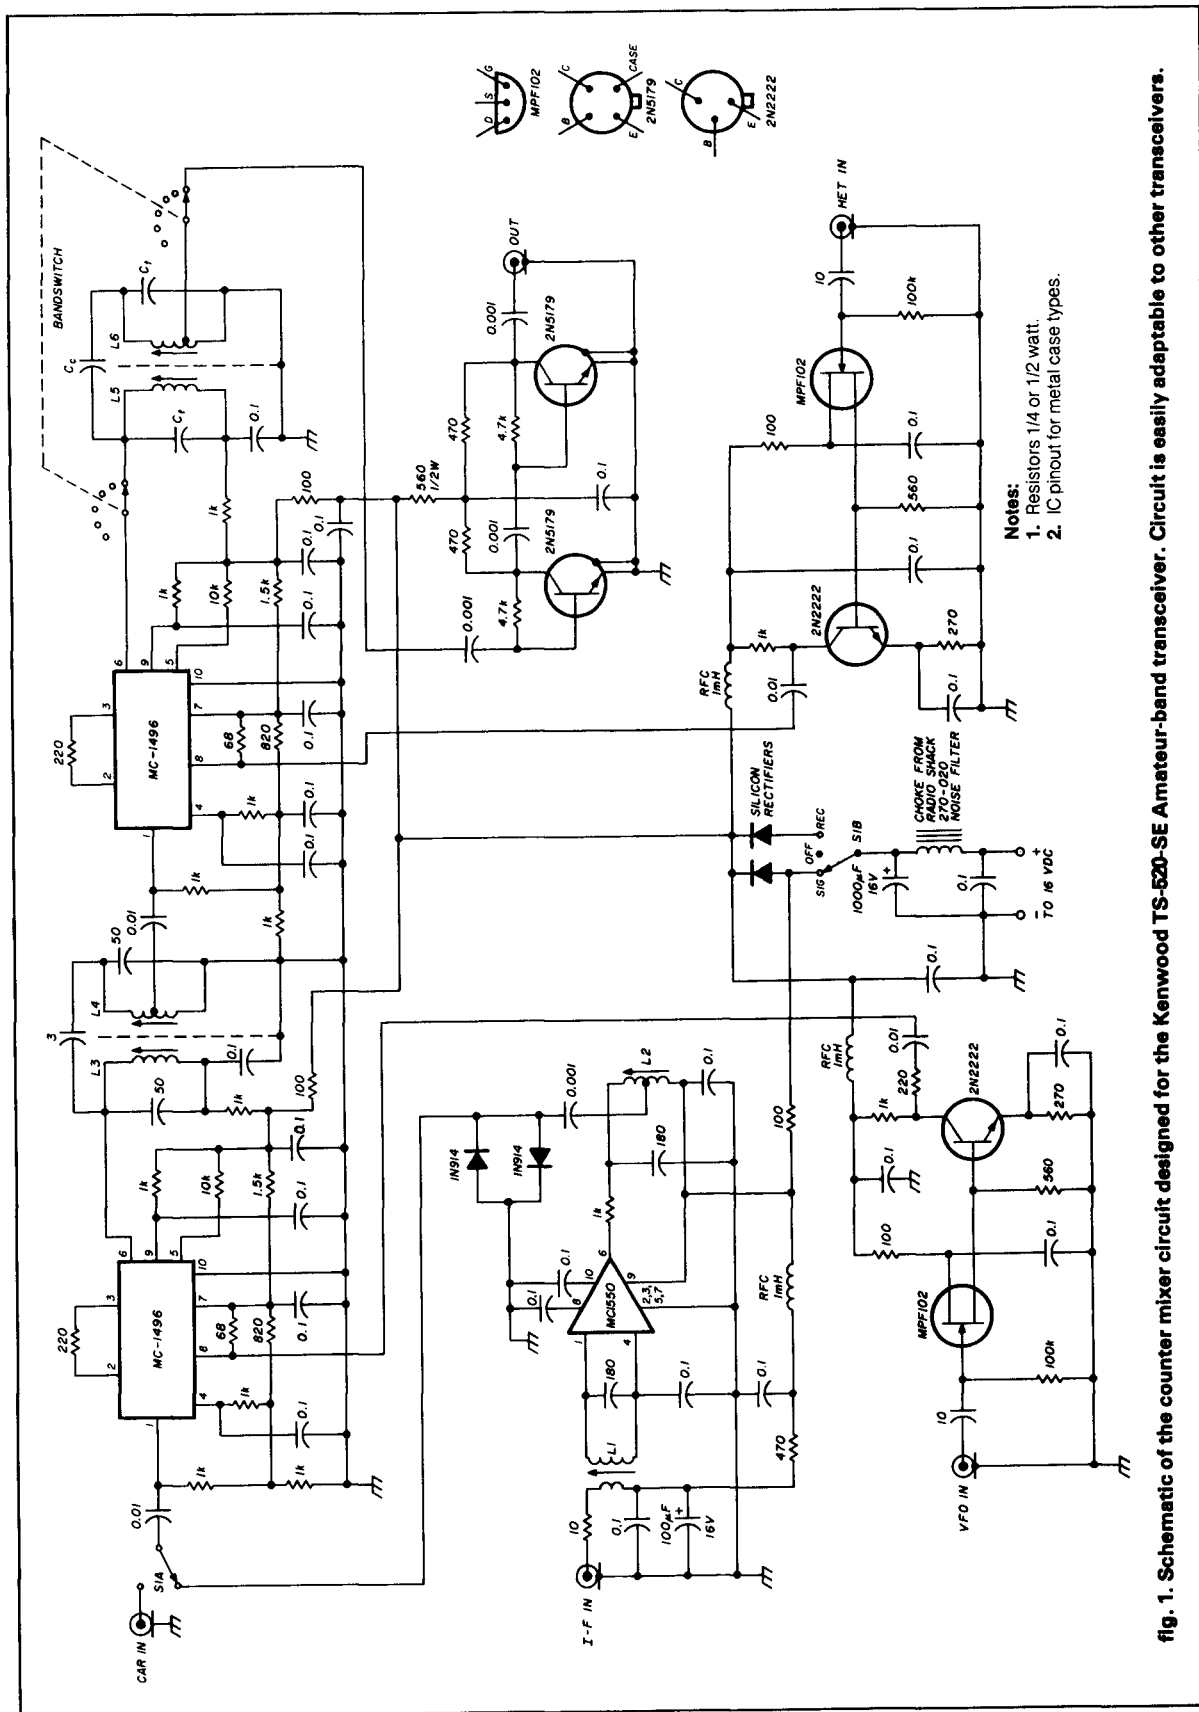

fig. 1. Schematic of the counter mixer circuit designed for the Kenwood TS-520-SE Amateur-band transceiver. Circuit is easily adaptable to other transceivers.
Simplicity is reliability, so I decided that the circuit couldn't be complicated; but good regulation was a requirement. The circuit shown in fig. 1 features no-load-to-full-load (8.0 amperes) regulation of 0.2 Vdc. Also featured in the circuit is "fold back" current limiting and overvoltage protection.
This particular unit (fig. 1) is for use with a Kenwood TS-520-SE. This transceiver has the oscillator outputs as well as a dc-supply connection available on the back panel. To provide an i-f output, another phono jack is installed on the back panel and an emit-
2. Adjust L3, L4 (fig. 1) for maximum signal at pin 1 of the second mixer (MC1496) with the transceiver tuned to about band center.
table 1. Coil data for the counter mixer circuit in fig. 1
Many of the receivers shown in the handbooks don't include an rf stage ahead of the mixer. This receiver was first tried using a double-tuned circuit directly into the mixer. However, the circuit was mounted in the chassis and capacitive coupling wasn't satisfactory. At night the shortwave broadcast stations came through. By using this simple rf stage, the selectivity problem was resolved. You can use whatever toroid forms you can find. The T-80-2 forms are probably too large, but these are what I have used. They have a red core and are about 1 inch (25.5 mm) in diameter. Resonance can be checked by holding a grid-dip oscillator to the hot end or by placing a turn or two of wire around the core and checking with the grid-dip oscillator. The input coil was mounted on the chassis topside and the output coil was mounted underneath. Fig. 1 shows the circuit.
fig. 1. Schematic of the solid-state 40-meter receiver. The MPF-102 rf stage helps selectivity, especially when foreign broadcast stations appear at night. PC boards are used, which were made using the tape-and-etching method. Low-frequency circuits could be mounted on perf boards. The 5.5-MHz filter was picked up at local flea market.